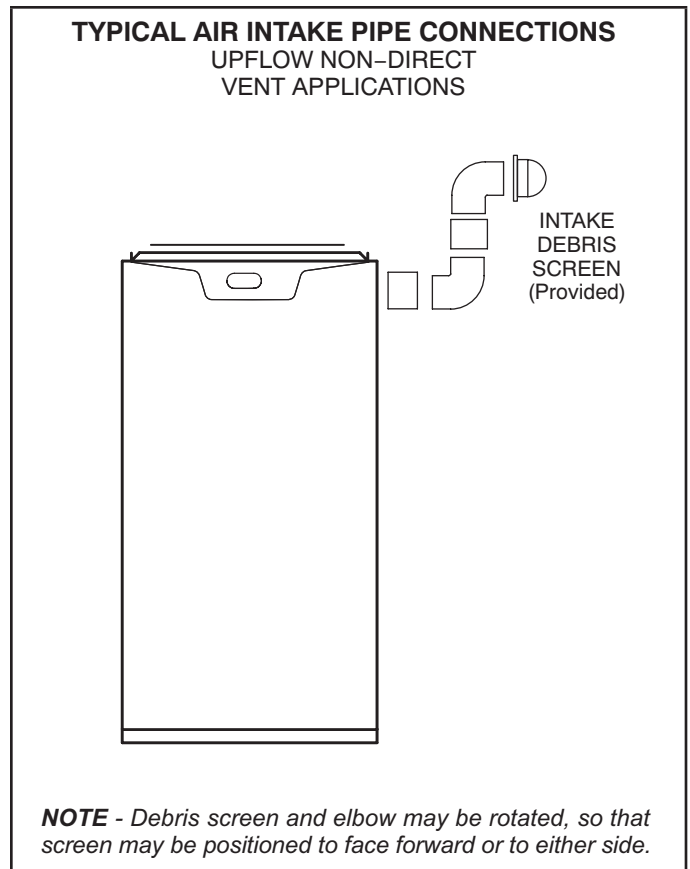

FIGURE 25
- 1 - Use field-provided materials and the factory-provided air intake screen to route the intake piping as shown in FIGURE 25 or FIGURE 26. Maintain a minimum clearance of 3" (76mm) around the air intake opening. The air intake opening (with the protective screen) should always be directed forward or to either side in the upflow position, and either straight out or downward in the horizontal position. The air intake piping must not terminate too close to the flooring or a platform. Ensure that the intake air inlet will not be obstructed by loose insulation or other items that may clog the debris screen.